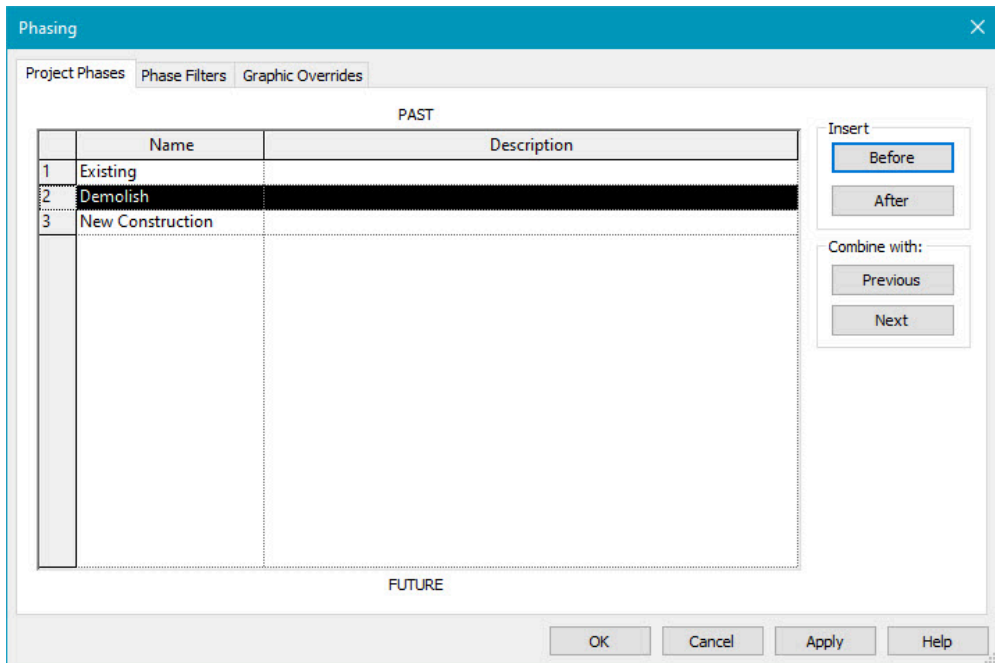

Figure 12.7 Project Phasing options in the Phasing window
5. Click the Name Phase 1 and rename it Demolish, see Figure 12.7